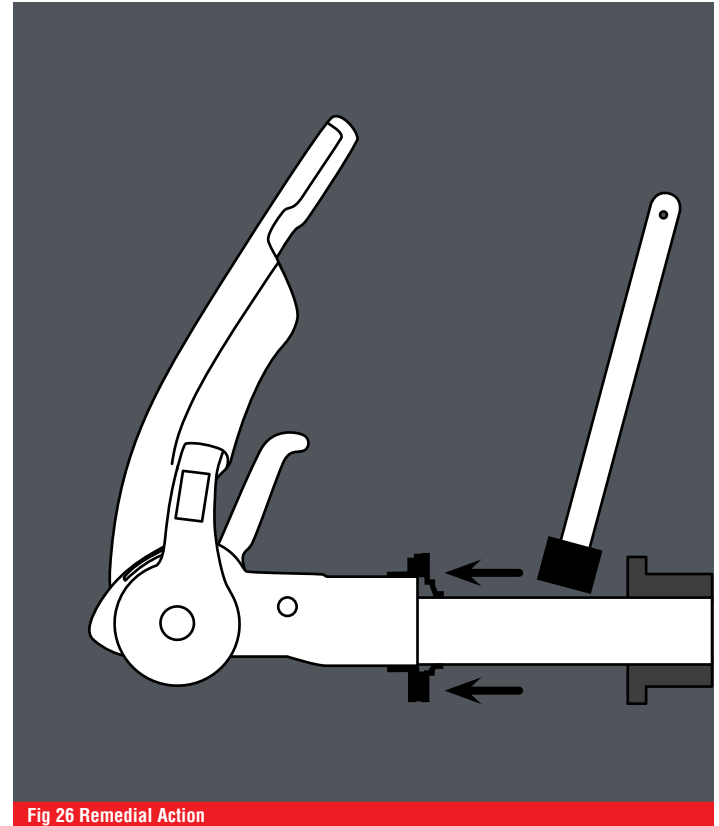

Fig 26 Remedial Action
- b. Lubricate the drawshaft sleeve via the grease nipples. In addition, push the gaiter forward and grease (DIN 51 825 KTA 3K) the exposed part of the shaft (Fig 26).